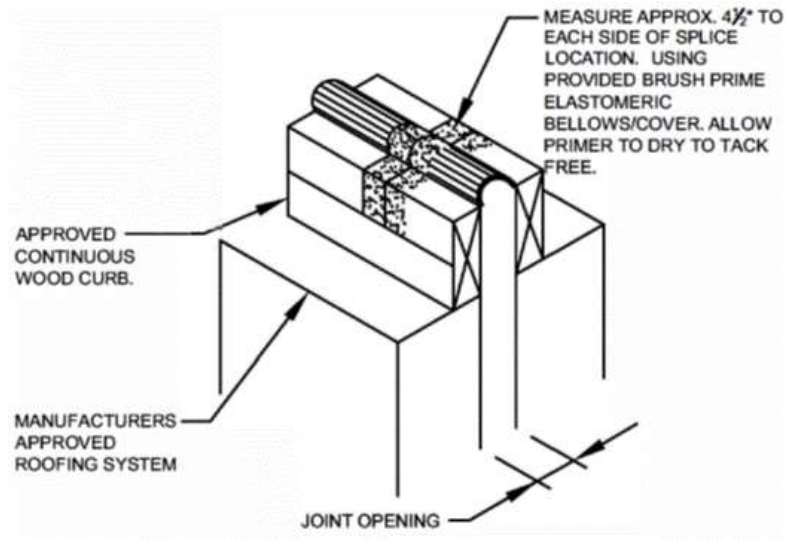

Figure 5
5. Measure approx. 4½" to each side of splice location. Using provided brush & primer, prime elastomeric bellows/cover. Allow primer to dry to tack free. Type at each splice location. **See Figure 5**